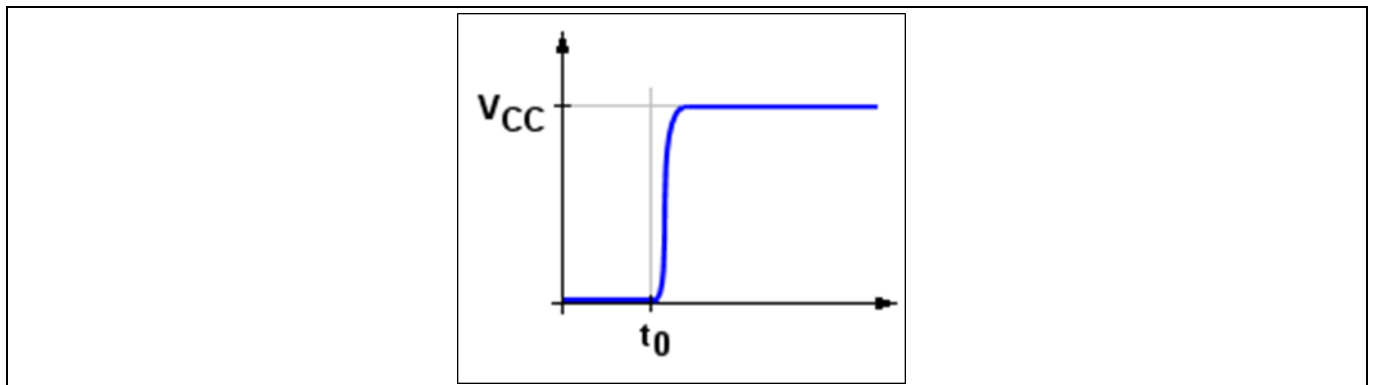

Figure 8 Signal rise after closing the switch at Point (A).
By closing the switch SW at time t_0 , as shown in Figure 8, the voltage can be measured at point (A).